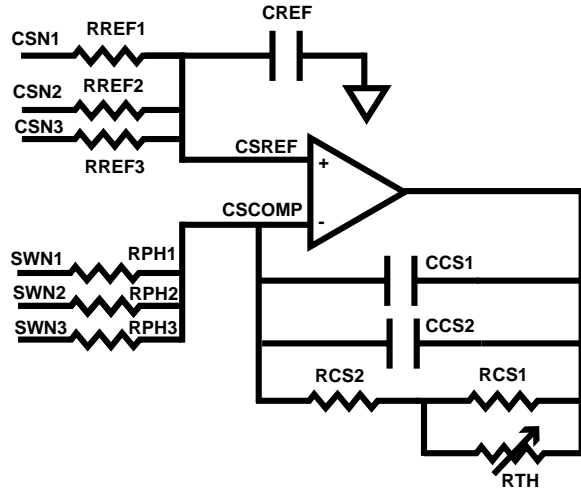

Figure 3: A typical Total Current Sense Amplifier
The R_{ref} resistors average the voltages at the output sides of the inductors to create a low impedance reference voltage $CSREF$. The R_{PH} are use to set the gain of the current sense (CS) amplifier and influence the loadline. Figure 3 below is showing an example of a two phase current sense amplifier.